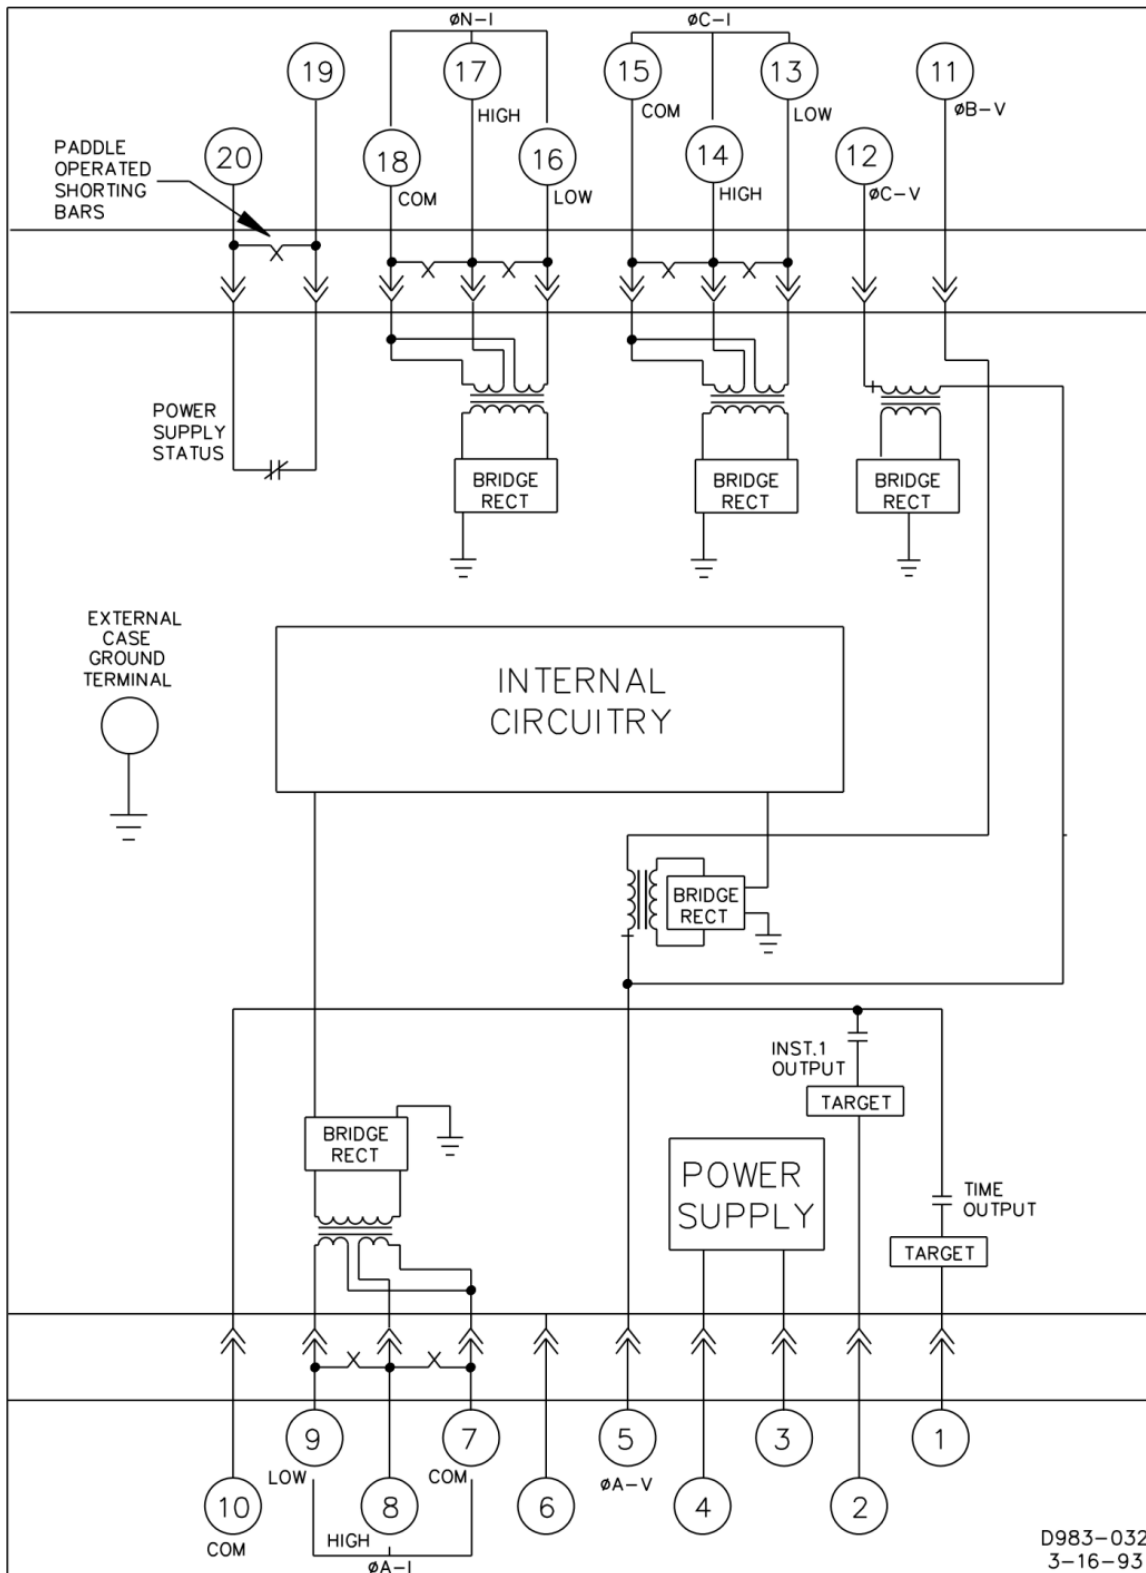

Figure 4-21. Typical Internal Diagram, Sensing Input Type Y or Z
- Figure 4-21: Typical Internal Diagram, Sensing Input Type Y or Z